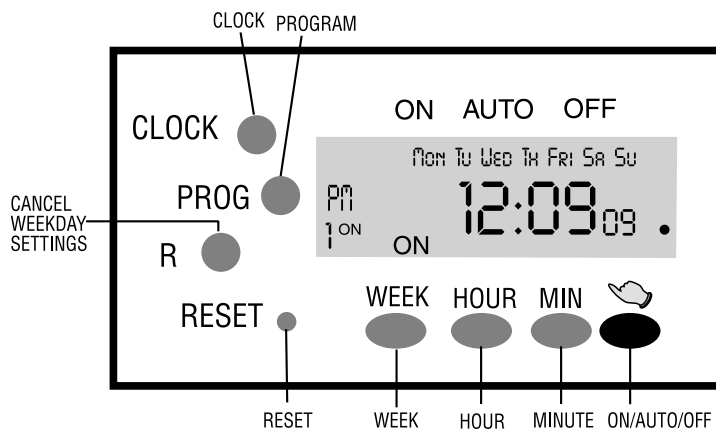

Figure 4
- Manual operating mode: (**Section 3.0 of the digital timer on page 7**) Manually start the feeder by pressing the hand symbol  and placing the **LCD display** in “ON” mode. (**Refer to Figure 4.**) After a few moments the feeder should feed food through the opening in the front of your feeder into the bowl. Wait for 3 to 5 minutes and push the  button until the **LCD display reads “OFF”**. This fill process allows for the food to fill in all the voids in the appliance. Place the timer in the “**AUTO**” mode prior to proceeding to the next step by pressing the  button.